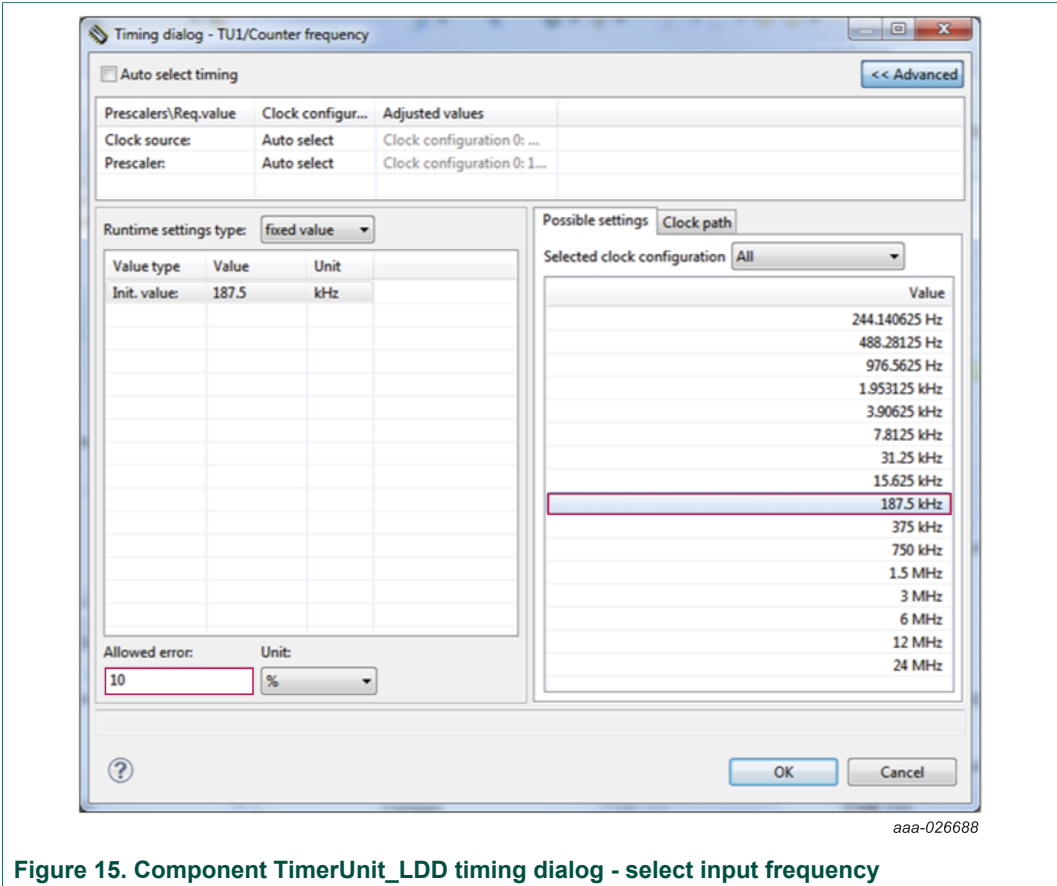

Figure 15. Component TimerUnit\_LDD timing dialog - select input frequency
- d. Set the Allowed Error value at 10 % (see Figure 15).